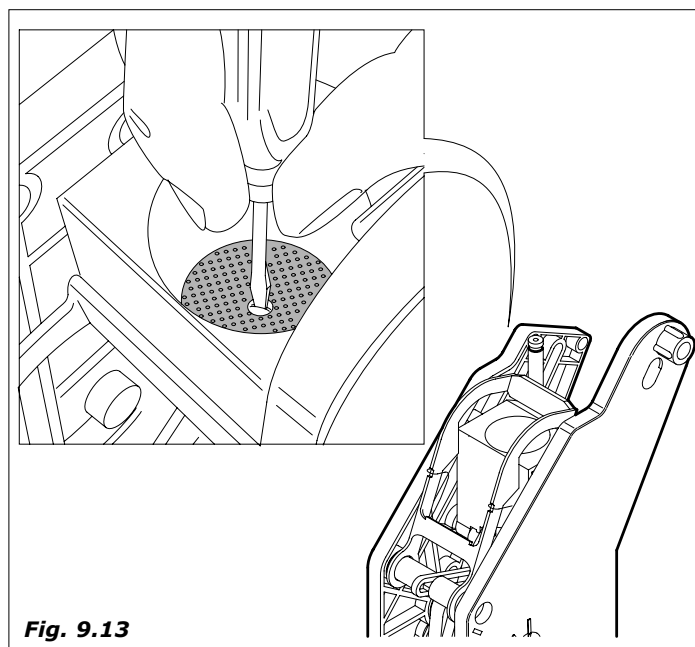

Fig. 9.13
- Loosen the screw (*Fig. 9.13*), wash the filter and replace if necessary.